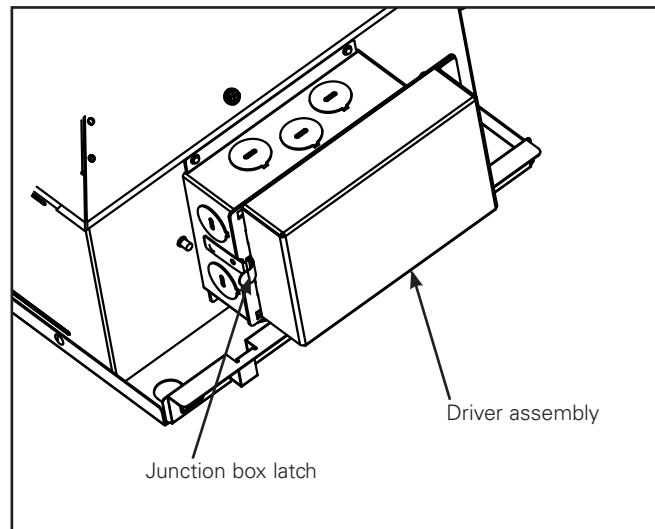

Figure 11
1. Press the Junction Box Latch to remove the driver assembly (see Figure 11)